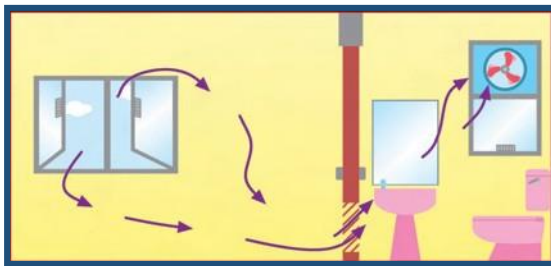

Fig5. Air flow pattern — from clean to less clean area
- Ensure air movement from a clean-air location towards toilet, then outwards to outdoor non-sensitive area (e.g. away from other ventilation inlets) (Fig 5);